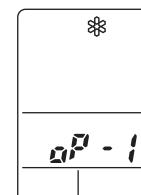

Fig. 8b
- After a few seconds, “※” appears and “oP-1” blinks in the remote controller display area. (Fig. 8b)